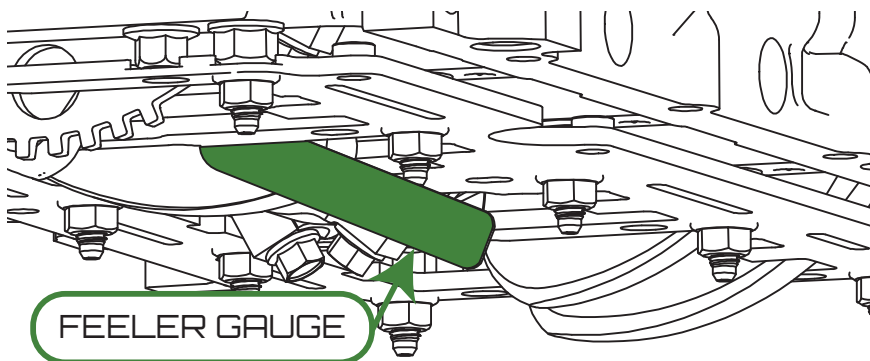

Figure 6 - Inspecting Clearance with a Feeler Gauge
9. Use a feeler gauge set, as shown in Figure 6, to carefully measure the gap between the scraper and the rotating assembly in-as-many positions as possible. Please be thorough!